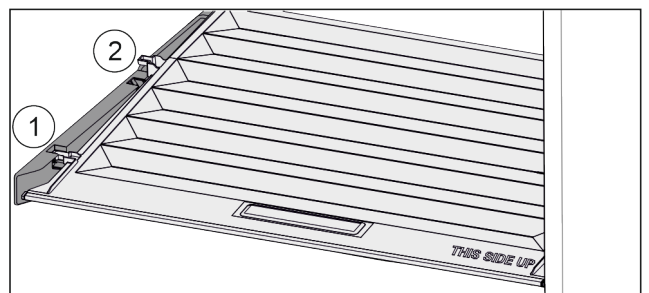

Fig. 66
- Pull the lid up at the front to the opening in the retaining parts Fig. 66 (1).
- ▶ Lift from the back and pull it up and out Fig. 66 (2).